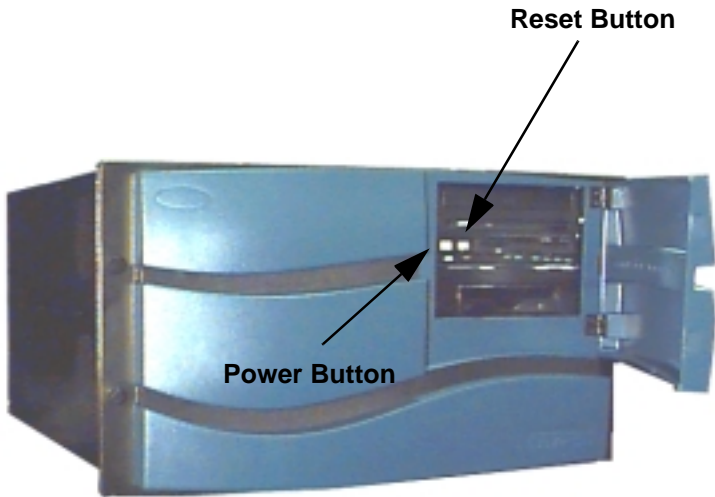

Figure 2-14. Front Panel Power Switch Location
- [] 3. Open the front panel's access door. Refer to *Figure 2-14* to locate the power button.